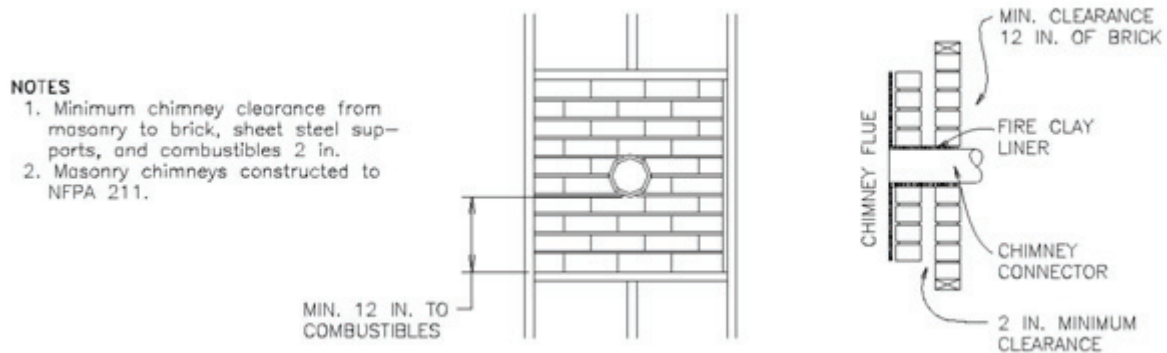
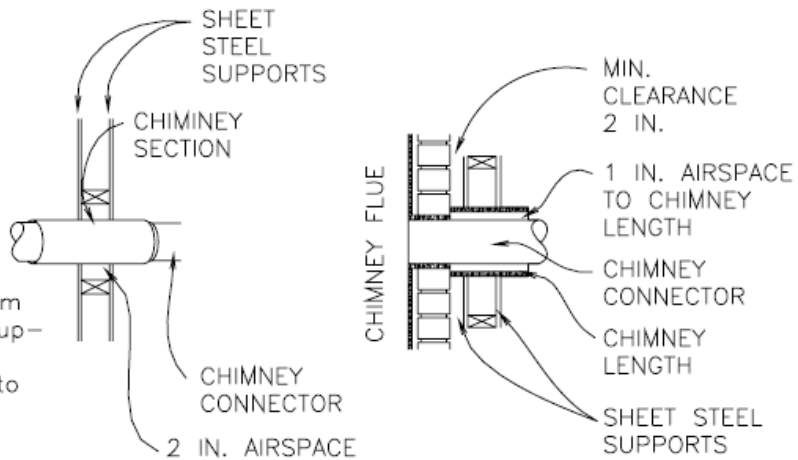

FIGURE 31: MASONRY CHIMNEY TO COMBUSTIBLE WALL
FIGURE 34: TYPE HT 2100°FACTORY-BUILT CHIMNEY
Catalytic stove installations that require a connection from the stove through a combustible wall to a masonry or prefabricated chimney require either a UL Listed thimble (wall penetration assemblies) or the methods outlined in the National Fire Association Standard 211, which is outlined below. It is important that the homeowner or installer be well versed in these variations and understands which one is best suited for their application. The following diagrams provide examples and explanations of chimney connector systems and clearances from combustible walls for residential heating appliances. During any installation, it is important to consult with the local code authority or an installation professional to ensure your installation is properly done. The following additional requirements will apply to FIGURE 31 through FIGURE 34:
- 4 A connector to a masonry chimney, except for the installation shown in FIGURE 31, shall extend in one continuous piece through the wall pass-through system and the chimney wall to the inner face of the flue liner, but not beyond.